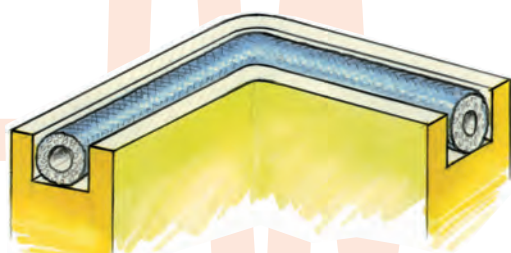

Figure 41: Groove construction with conductive o-ring gasket
- 41 Very small construction:** (smaller than 150 x 150) grooves, casted, molded or machined: conductive profiles, o-ring or cut gasket out of highly conductive rubber are suitable. (Fig. 41)